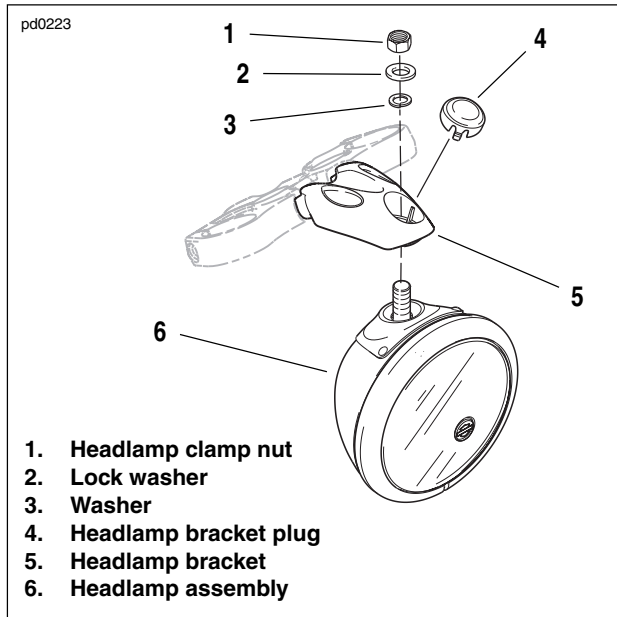

Figure 6-12. Headlamp Adjustment-VRSCB Model
1. See Figure 6-12. Loosen headlamp clamp nut (1).
2. Tilt headlamp (6) up or down to properly aim it in relation to the horizontal line, and, at the same time, turn it right or left to direct light beam straight ahead.
4. Locate headlamp bracket plug (4), packaged in traveler included with motorcycle in crate. Snap plug into place in headlamp bracket (5).